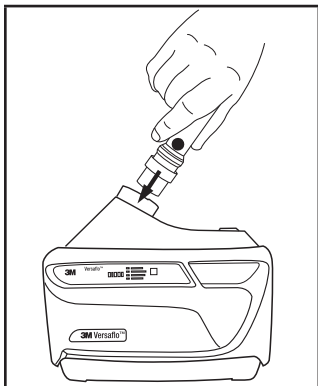

Fig. 16-1 - Attaching airflow indicator
- Insert the TR-971 into the outlet of the TR-600 motor/blower unit. If the breathing tube is in place, it must be removed to allow the airflow indicator to be inserted (Fig. 16-1).